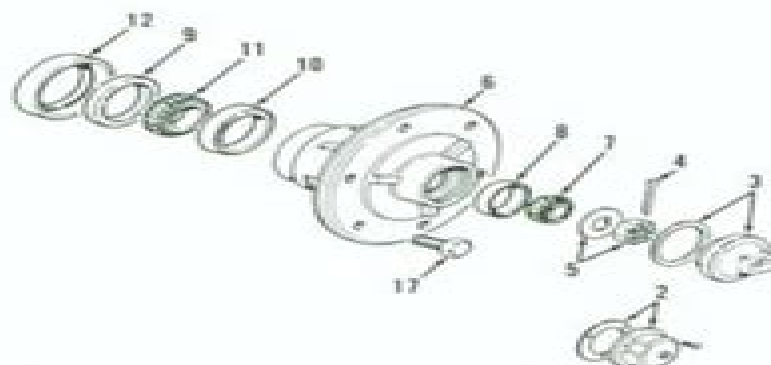

Fig. 4—Exploded view of wheel hub typical of two-wheel-drive models.
**1. WHEELS AND BEARINGS.** To remove front wheel hub and bearings, raise and support the front axle extension, then unbolt and remove the tire and wheel assembly. Remove cap (2 or 3—Fig. 4), cotter pin (4), castellated nut (5), washer and outer bearing cone (7). Slide the hub assembly from spindle axle shaft. Remove dust shield (12), seal (9) and inner bearing cone (11). Drive bearing cups (8 and 10) from hub if renewal is required. Pack wheel bearings liberally with a multi-purpose lithium based grease. Reassemble by reversing disassembly procedure. Tighten castellated nut (5) to a torque of 80 N·m (60 ft.-lbs.), then back nut off to the nearest hole and install cotter pin (4). Be sure to install cap (2 or 3) securely.